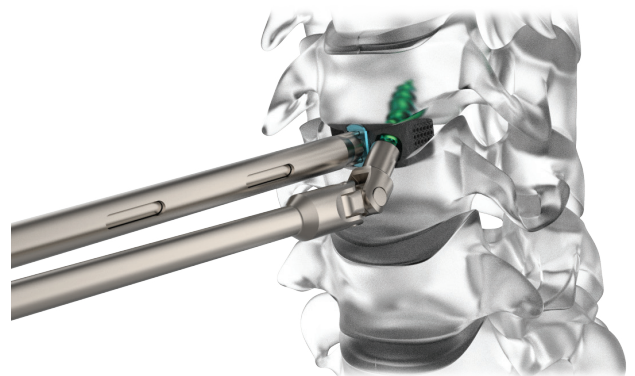

Figure 15
- Screws are color-coded by length and diameter. Press the hex driver (straight or polyaxial self-guided or fixed angle tip) into the female drive feature of the screw inserter in order to retain the screw onto the screw inserter. Guide the attached screw into the pilot hole and thread until fully seated. Ensure screw is concentrically centered in screw pocket and aligned correctly. Verify screw placement and angulation via intraoperative imaging (Figure 15).